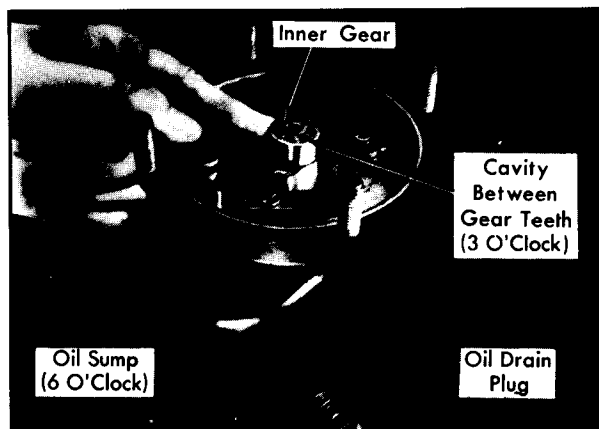

Figure 104—Positioning Oil Pump Gears
19. Position outer oil pump gear over inner gear with previously applied identification mark **UP** and, when standing facing oil sump, position outer gear so that it meshes with inner gear at the 9-o'clock position, and resulting cavity between gear teeth is then at 3-o'clock position (figure 104).